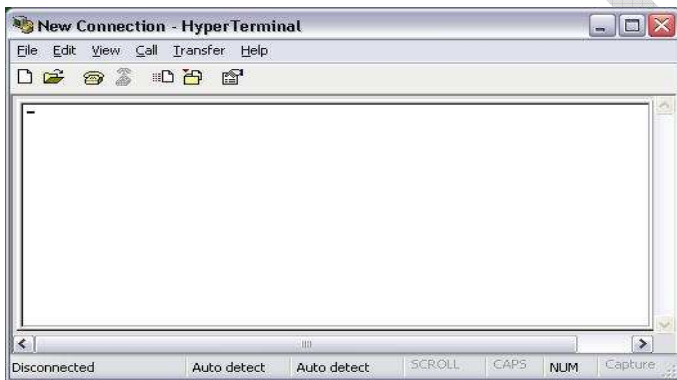

Figure 4.4 Hyperterminal setup (4)
5. A text-based Hyperterminal window will show up as in Figure 4.4.